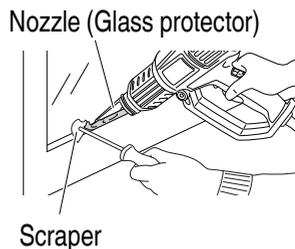

Fig. 10
5. Removing putty from window frames (**Fig. 10**)